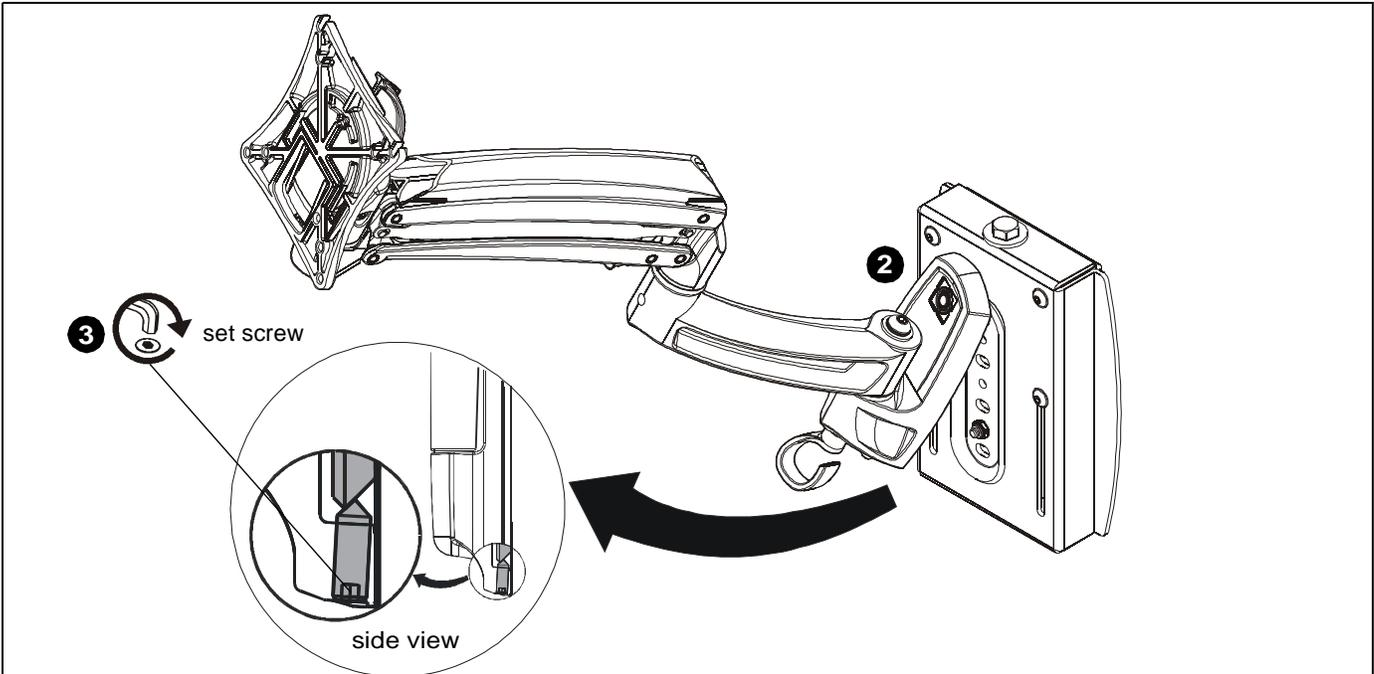

Figure 1
1. Install OFBU bracket (E) to slat wall following OFBU installation instructions.
2. Hang monitor arm (A) over OFBU bracket (E). (See Figure 1)
3. Secure monitor arm (A) to OFBU bracket (E) by tightening set screw. Ensure set screw engages back side of wall bracket to properly secure mount. (See Figure 1)